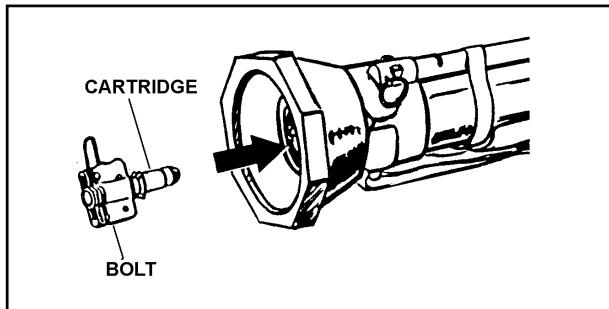

Figure B-9. Inserting bolt with cartridge into the breech of the M287 tracer trainer.
- (1) The firer performs the function check and places the M287 tracer trainer on his shoulder.
- (2) The trainer looks through the barrel from the rear to verify that it contains no obstructions. He inspects the cartridge primer to ensure it is not dented, inserts the bolt into the breech (Figure B-9), and presses in and turns the bolt clockwise to the "S" to